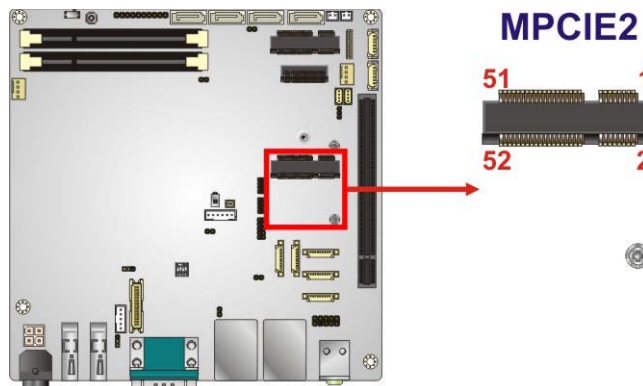

Figure 3-17: Half-size PCIe Mini Card Slot Location
- CN Location:** See **Figure 3-17**